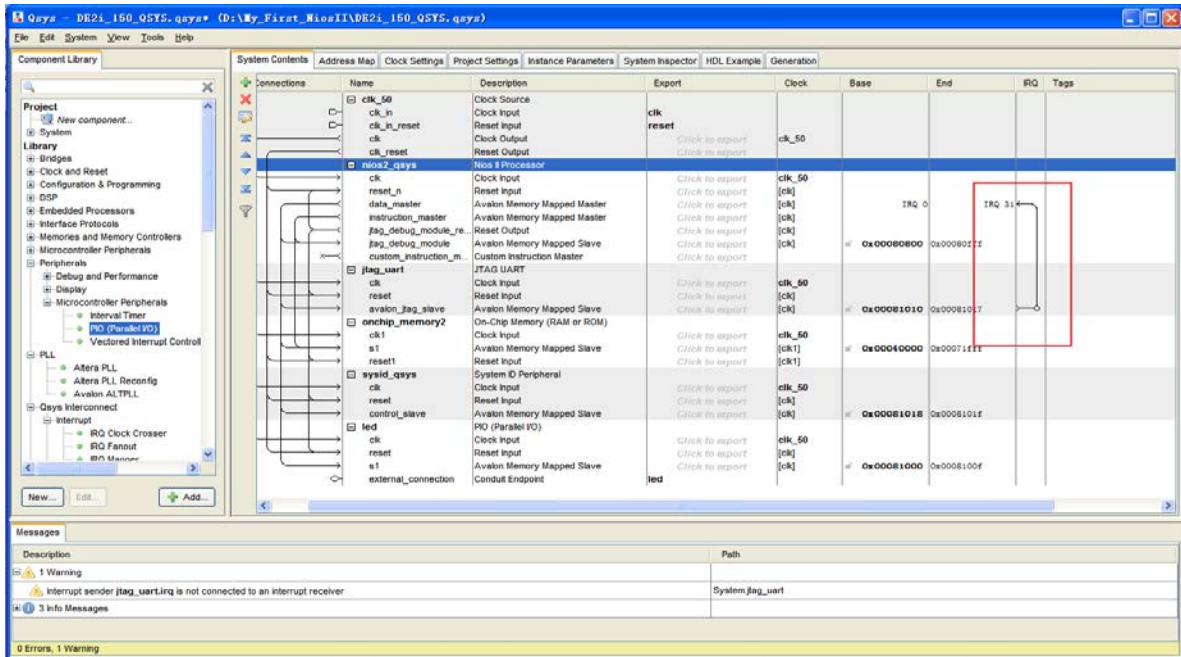
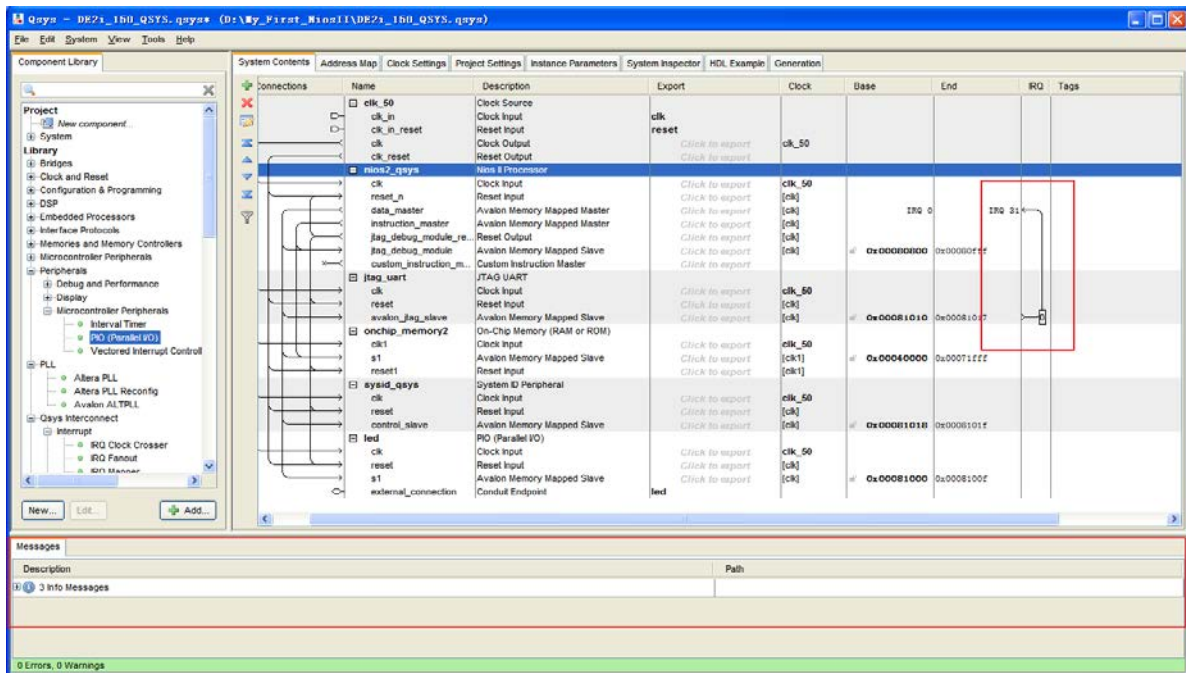

Figure 1-45 Assign IRQ
Figure 1-46 No Warnings
29. Assign **Interrupt Numbers** as shown in Figure 1-45. After that, you will find that there is no warnings in the message window as shown in Figure 1-46. ( In the **IRQ** column, connect the Nios II processor to the JTAG UART)